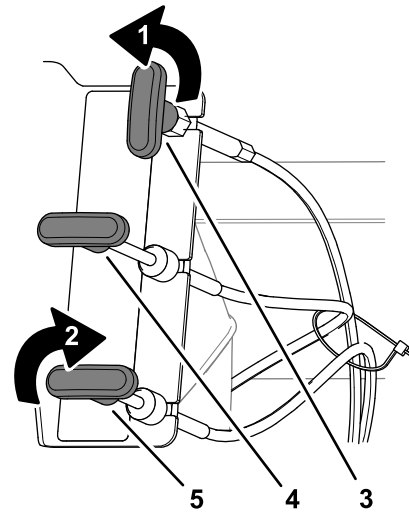

Figure 21
1. Rotate the handle of the hopper-door control counterclockwise to unlock the control (Figure 21).
3. Rotate the handle of the hopper-door control clockwise to lock the control (Figure 21).
1. Rotate the handle of the deflector control counterclockwise to unlock the control (Figure 21).
3. Rotate the handle of the deflector control clockwise to lock the control (Figure 21).
1. Rotate the handle of the diffuser control counterclockwise to unlock the control (Figure 21).
3. Rotate the handle of the diffuser control clockwise to lock the control (Figure 21).